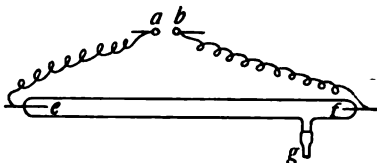

FIG. 417.—An Aurora tube.
**418. Discharges in Rarefied Air.**—Fig. 417 represents a glass tube 60 or more centimeters long, attached to an air pump. Connect the ends of the tube to the terminals of a static machine or of an induction coil, *a-b*. At first no sparks will pass between *a* and *f*, because of the high